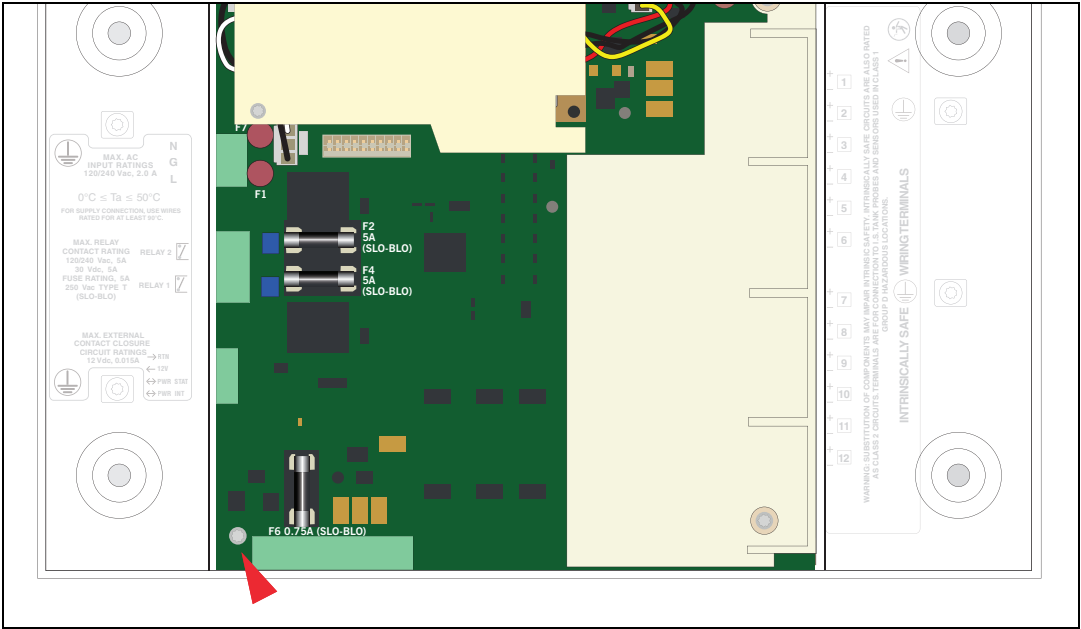

Figure 11. Remove Lower Left Corner USIOM Board T15 Screw
6. Remove the T15 #6 x 0.375 screw from the lower left corner of the USIOM board (see Figure 11) and set it aside.